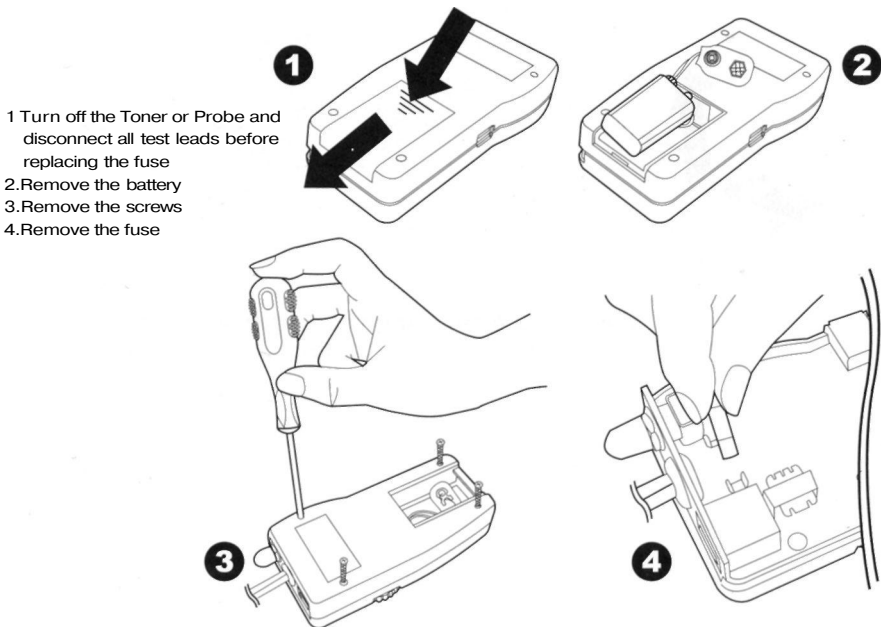

Figure 13 Replacing the Fuse
To replace the fuse, do the following steps as shown in Figure 13:
2. Open the cover to remove the battery carefully as Figure 13 shown below.